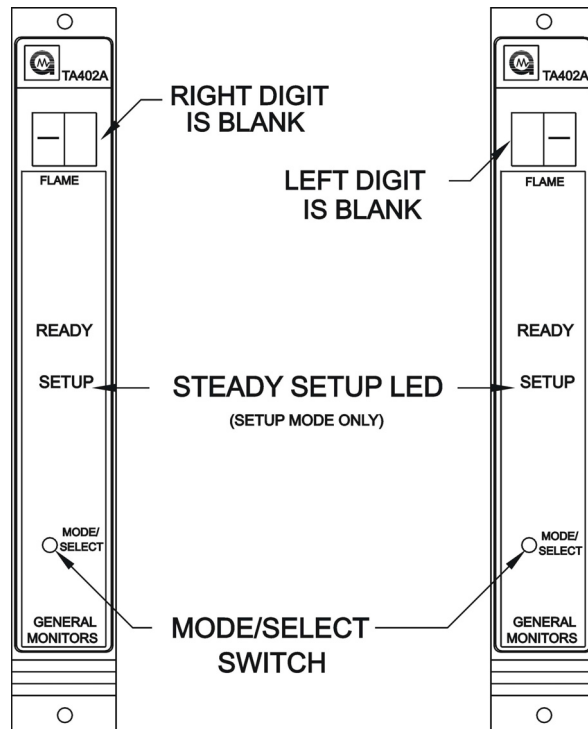

Figure 14
- If the password option is enabled, the right digit of the display will be blank and a (-) will appear in the left digit on the display (Figure 14). Press the **Mode/Select** switch until the first number of your password is displayed, and then wait about five seconds.
- The left digit of the display will then blank out and a bar (-) will appear in the right digit on the display (Figure 14). Press the **Mode/Select** switch until your correct password number is displayed, then wait about five seconds. If the password is correct the unit will proceed to the inhibit option. If the password is incorrect the user will not be able to proceed and the unit will return to the normal operating mode. Once in the operating mode the user may attempt to re-enter the **Setup Mode**. The factory default password is **00**.